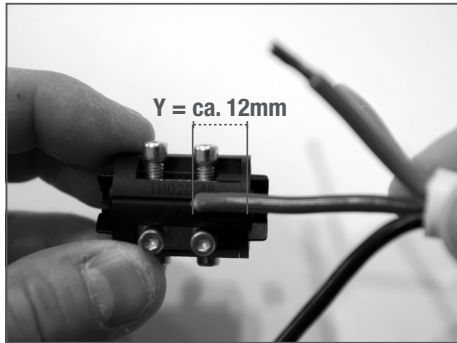

FIG. 4
- As a quick reference you can place the wire near the connector block. The distance between the screw head and the end of the connector block as shown in **Fig. 4** is the amount of insulation needs to be removed from the wires
Vosotros podeis poner el cable junto al conector. La distancia entre la cabeza de la vida y el final del conector como mostrado en la Fig. 4 es la totalidad del plastico que tenéis que eliminar